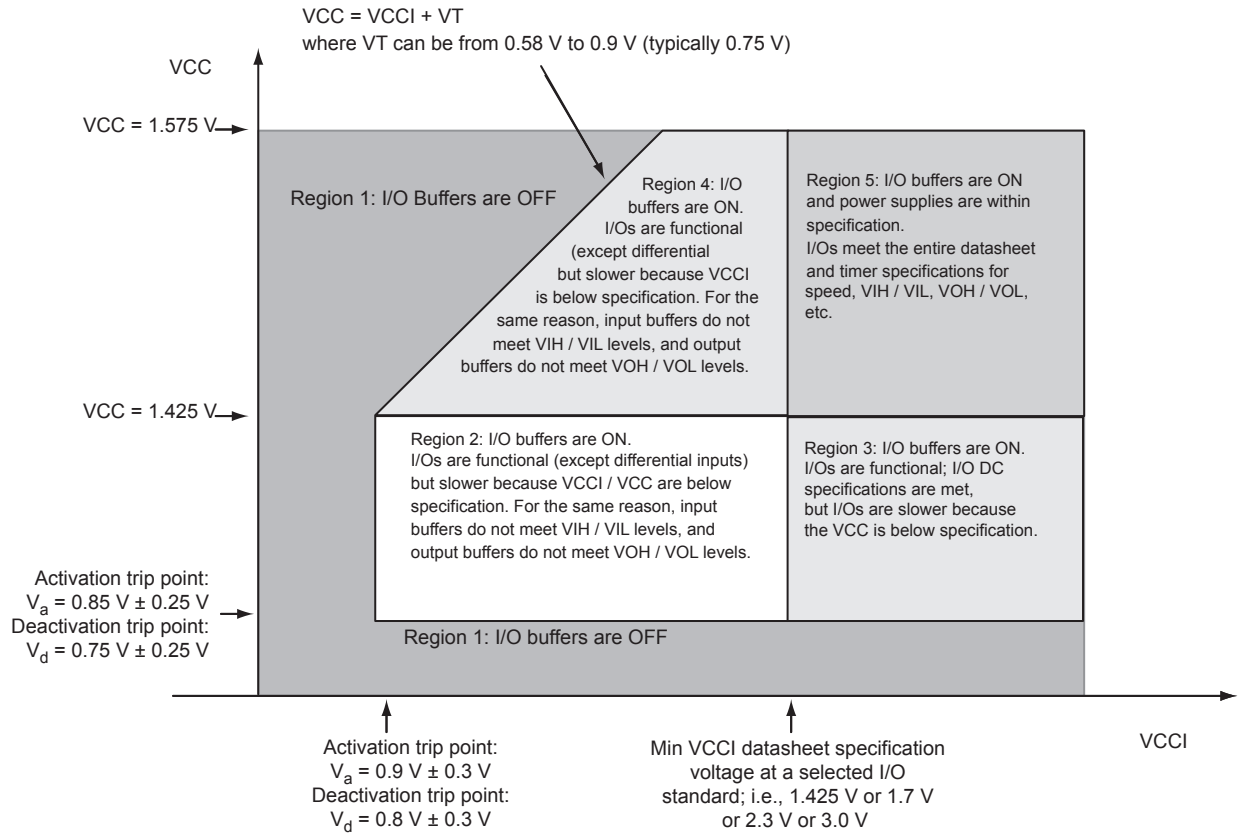

Figure 2-2 • I/O State as a Function of VCCI and VCC Voltage Levels
In addition, the I/O will be in a known state through the power-up sequence. The basic principle is shown in Figure 2-2 on page 2-5.
1. VCC and VCCI are above the minimum specified trip points (Figure 2-2 on page 2-5).
Microsemi recommends using monotonic power supplies or voltage regulators to ensure proper power-up behavior. Power ramp-up should be monotonic at least until VCC and VCCPLLX exceed brownout activation levels. The VCC activation level is specified as 1.1 V worst-case (see Figure 2-2 on page 2-5 for more details).